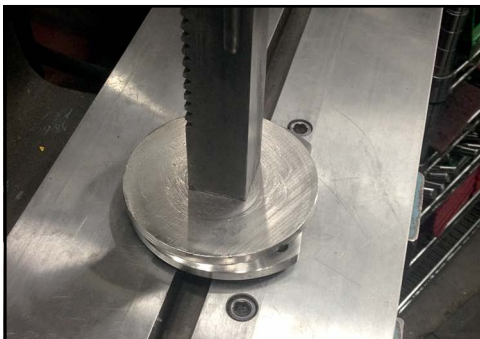

Figure 204 - Install bearing retainer seal
- Press to install the bearing retainer seal into the bearing retainer as shown in Figure 204.